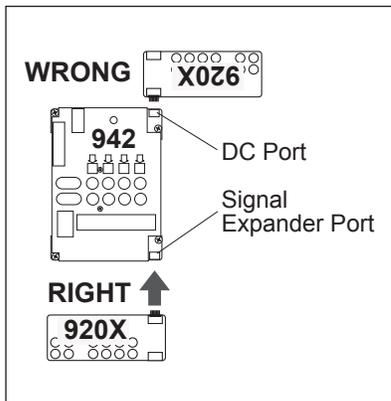

Figure 15. Audio signal expander connection
1. Mount the main modules first, then plug in and mount signal, and DC expander modules (*Figure 15 and 16*). Use the screws provided.
2. Connect an audio signal expander (if any) such as 920X or 949X to its respective main switching module as shown in *Figure 15*. It is critical that the signal expanders be connected to the header port on the main module labeled "EXPANSION." DO NOT plug an audio signal expander module to the header port labeled "DC EXPANSION."